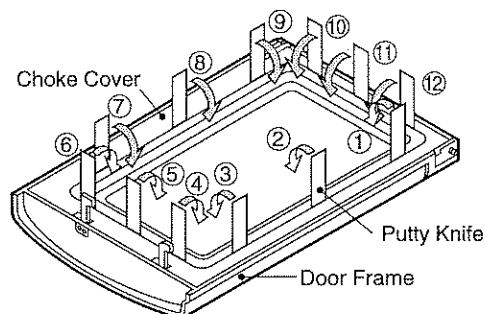

Figure C-8. Door Disassembly
gap between the choke cover and corner portion of door panel as shown in Figure C-8 to free engaging parts.
4. Pry the choke cover by inserting a putty knife in order shown in figure C-8.